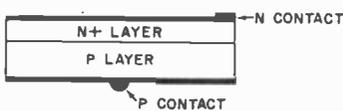

Fig. 1. Cross section of silicon solar cell shows its similarity to simple pn junction.
**Physical Principles.** Before expanding in detail the characteristics of the silicon solar cell, let us review the physics involved in its operation to get a better understanding of the device's characteristics. Figure 1 shows a pn junction that is similar in principle to a simple semiconductor diode. While the events occurring in the junction are like those of an ordinary diode, several important differences in construction should be noted.